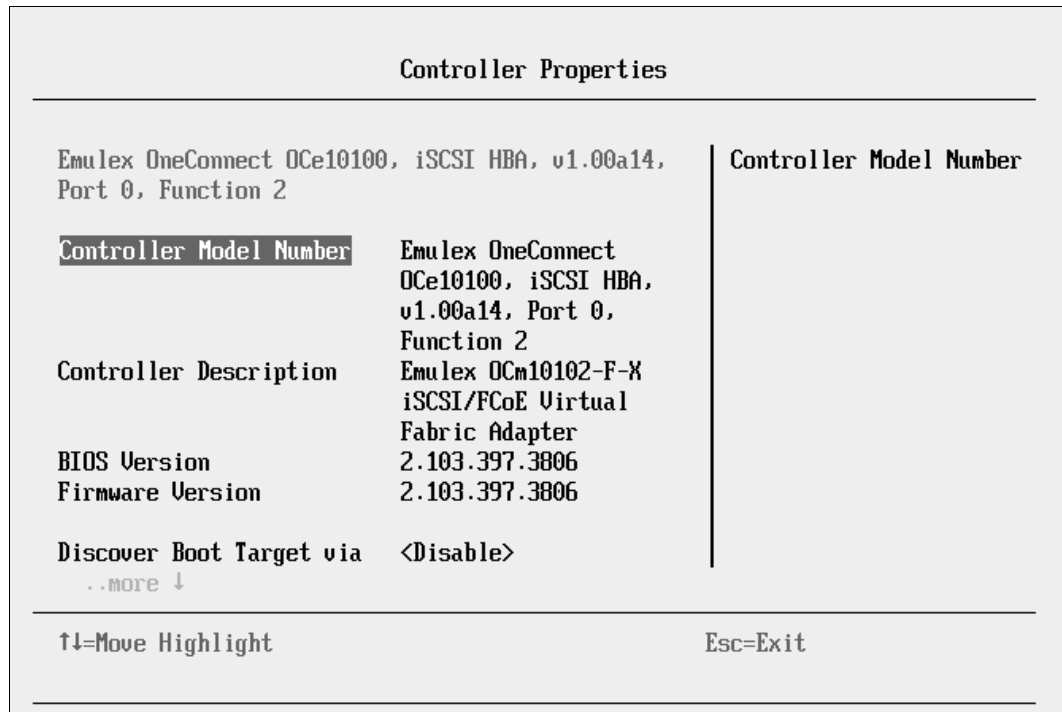

Figure 9-74 Controller Properties panel
2. In the Controller Properties panel (Figure 9-74), verify the BIOS and firmware version. Make sure that you are using the latest supported version for your SAN device. Then press Esc.